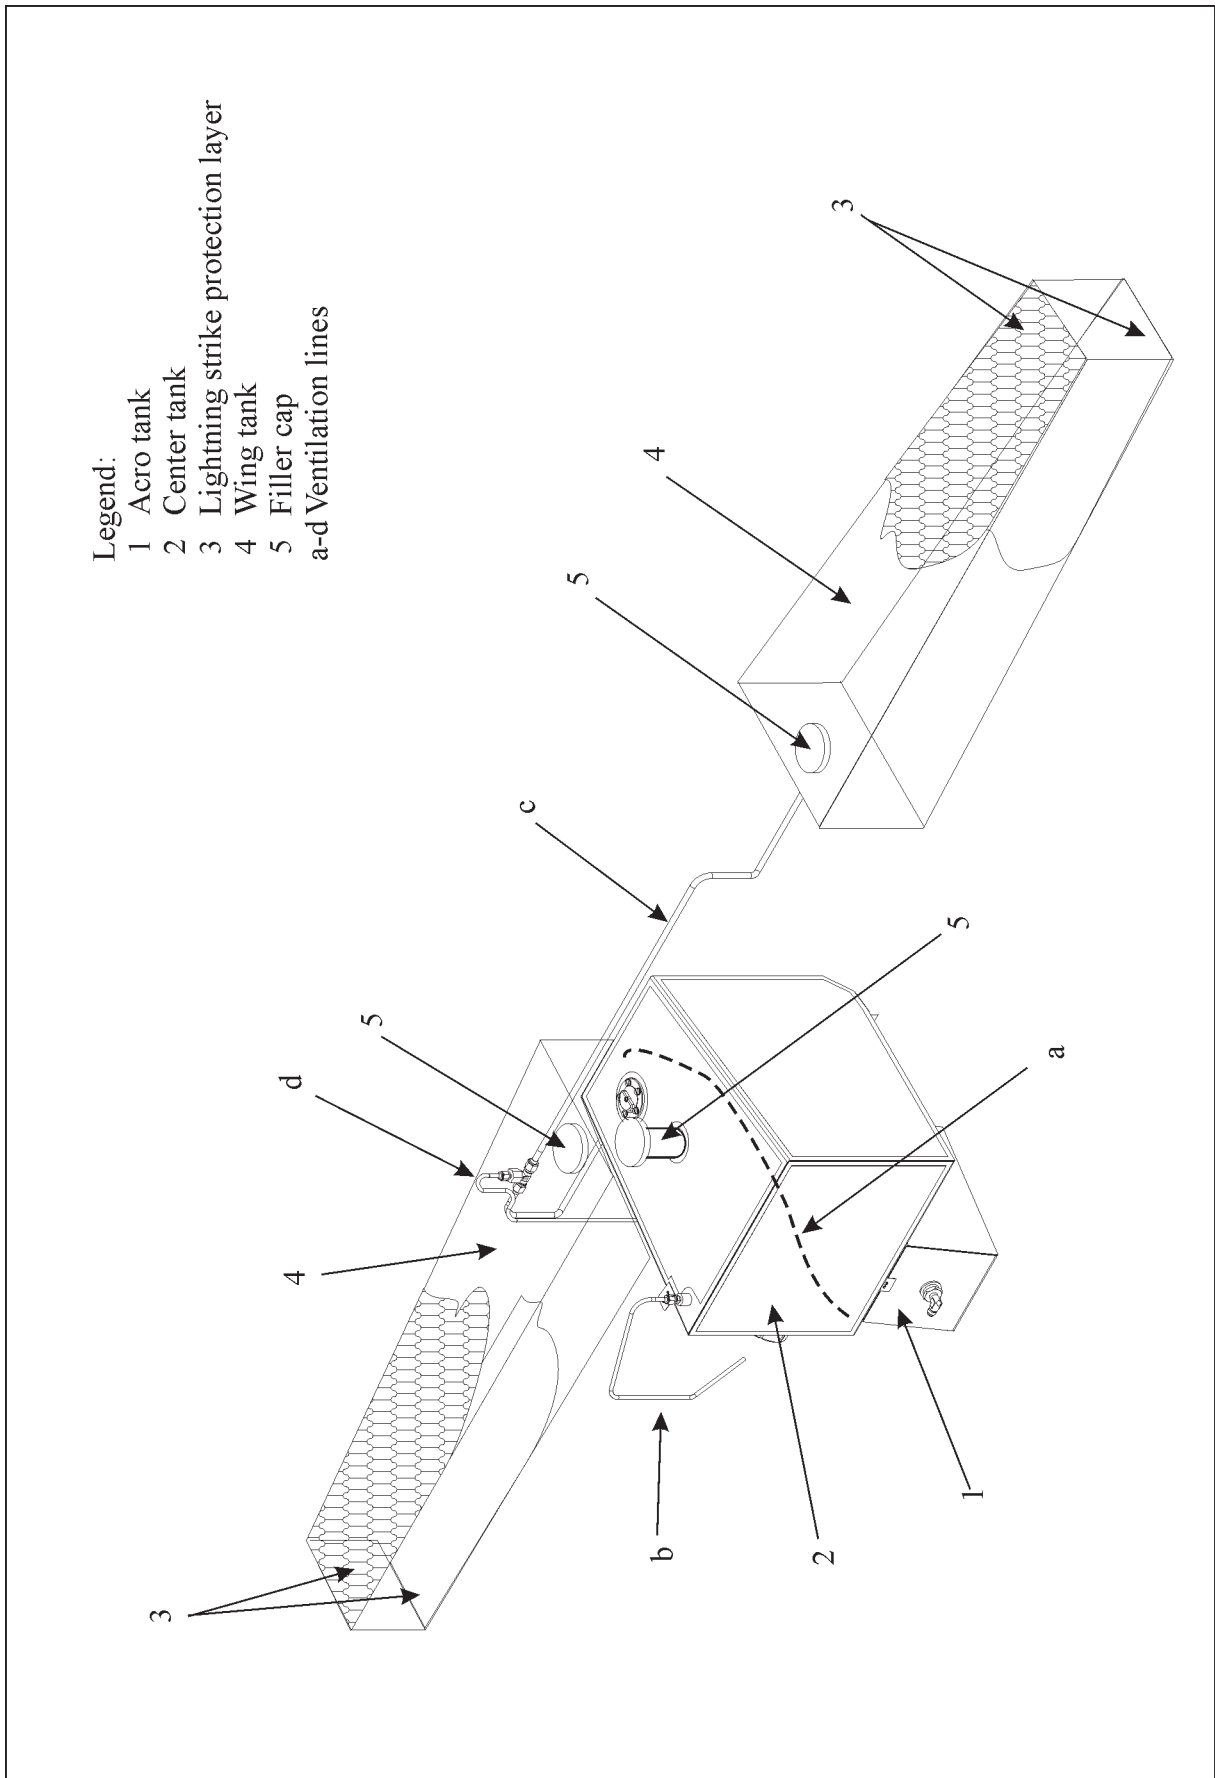

Figure 2
On the rear instrument panel one fuel quantity indicator for the center tank and one for the wing tanks (refer to chapter 31, figure 2) as well as the boost pump switch and circuit breaker are installed.
The acro tank (1, figure 2) incorporating an inverted flight fuel supply system is mounted in the fuselage just behind the firewall. It is connected by a flexible hose to the center tank (2) which is mounted in front of the main spar area. Fueling the center and acro tank is done by means of the fuselage 2" diameter filler cap (5). For leak detection purposes the center and the acro tank are furnished with a GRP tank shell. In case of leakage blue colored fuel is shining through. The center and the acro tank are grounded. The acro tank deaerates (a) into the center tank that itself deaerates by a ventilation tube (b) ending at the right side of the main landing gear spring.